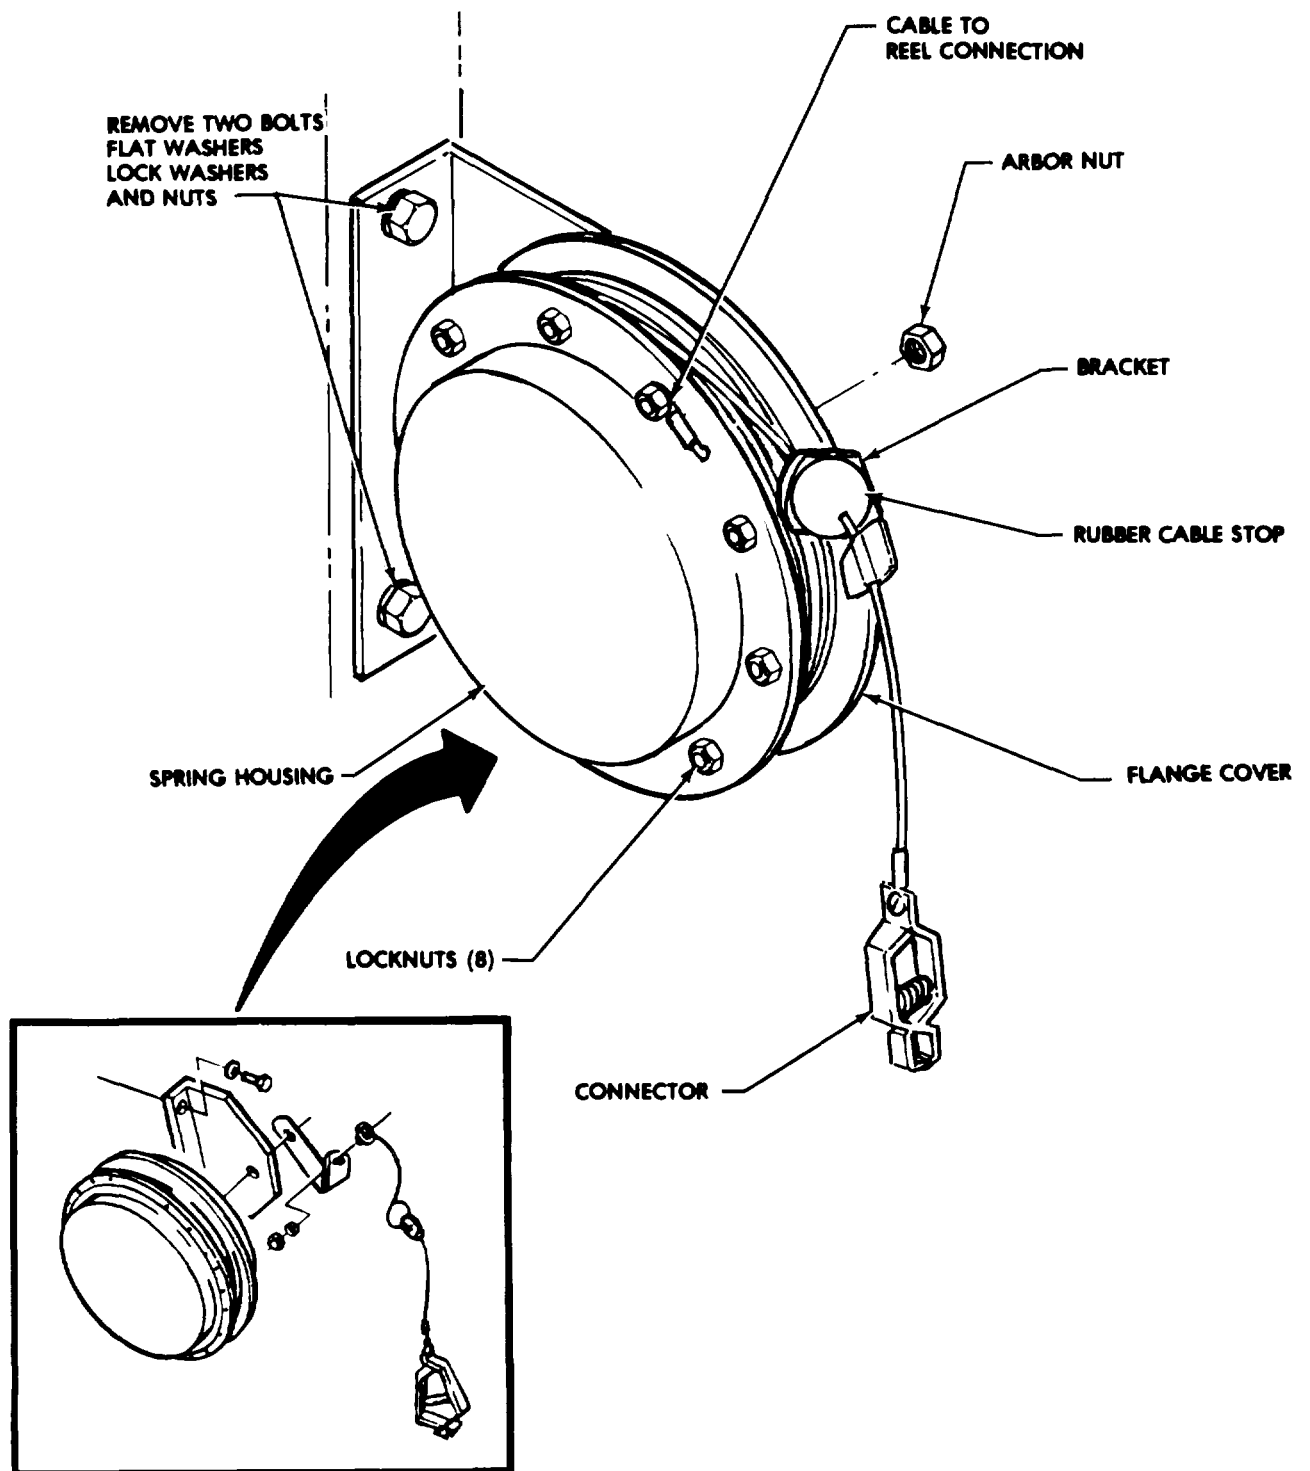

Figure 4-12. Static Discharge Reel.
- (1) Remove arbor nut and cable guide bracket (figure 4-12).
- (2) Remove two bolts, flat washers, lockwashers, and nuts, and remove bracket.
- (1) Install bracket with two bolts, flat washers, lockwashers, and nuts (figure 4-12).
- (2) Attach bracket and arbor nut.